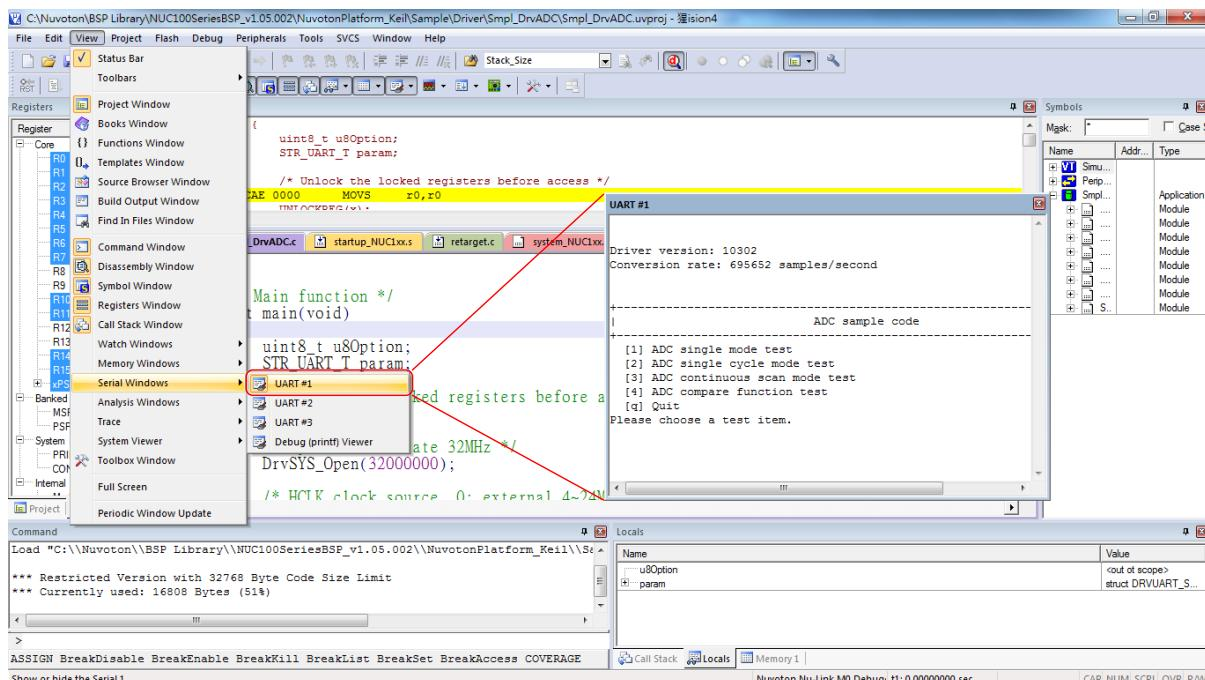

Figure 3-4 Semihost Options in Keil MDK Debug Mode
When using the Semihost function, the message of the NuMicro® Family microcontroller can be output through UART to the debug window by the Nu-Link Adapter. That is, the message is output without the GPIO. Figure 3-4 shows the debug messages in the “UART #1” form, which are the messages output by the Nu-Link Adapter.
Step 4: In Debug mode, invoke **View → Serial Windows → UART #1**, as shown in Figure 3-4.